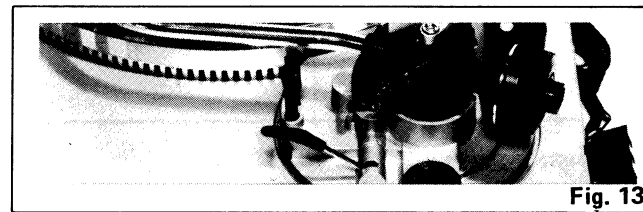

Fig. 13
6. Move the tonearm over the desired groove. The turntable platter will start to rotate. (See Fig. 13.)
7. Set the cueing lever to the down position. (See Fig. 13.)